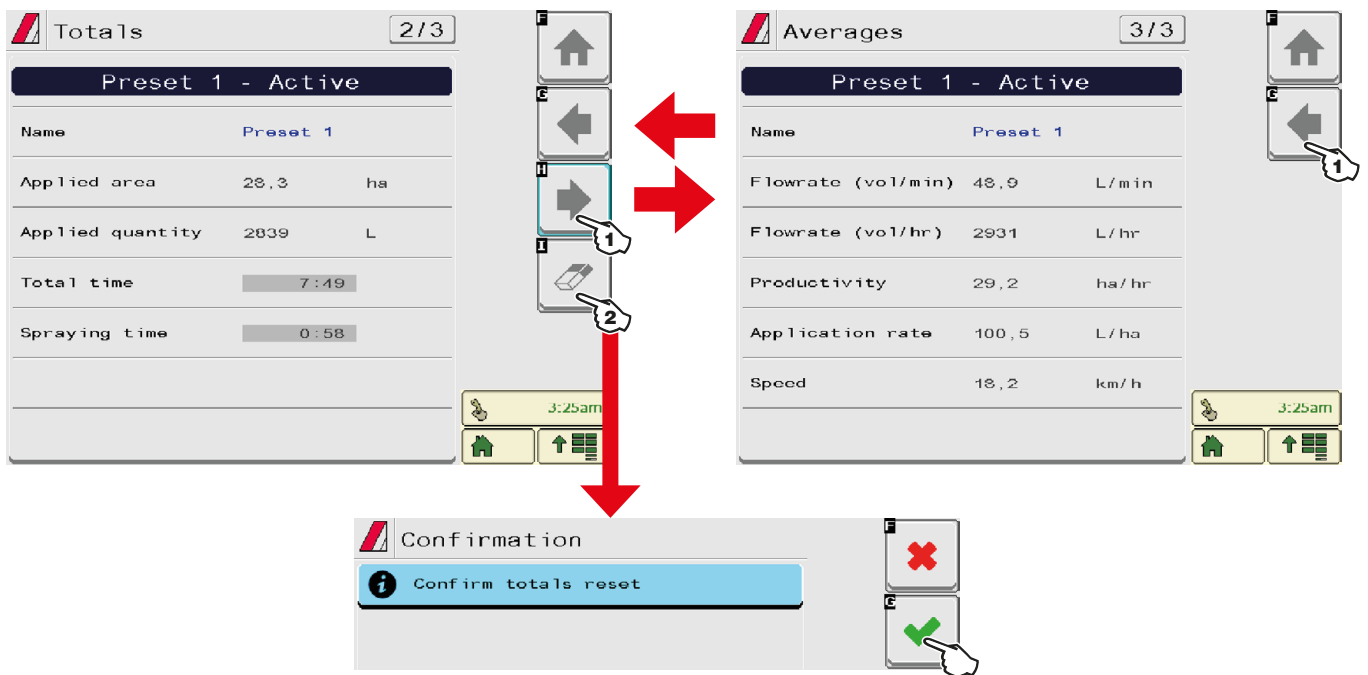

Fig. 69
- Consulting the job data of the selected treatment (**Preset**) pages "Totals" and "Averages" in Fig. 69.